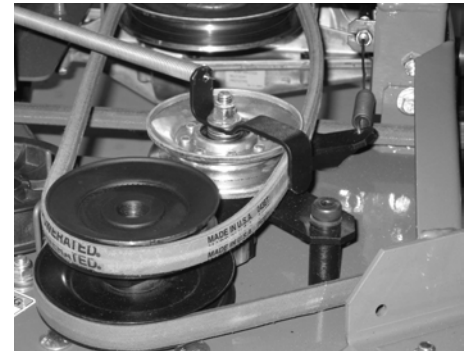

Fig. 17-7
15. Observe the idler pulley when the blade drive lever is lowered and released (see figure 17-7).